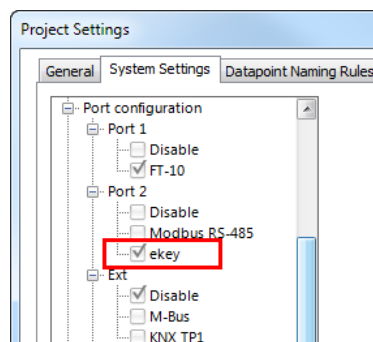

Figure 163: Enabling ekey in the Project Settings Dialog.
2. In the **System Settings** tab enable the ekey protocol on an RS-485 port, as shown in Figure 163.